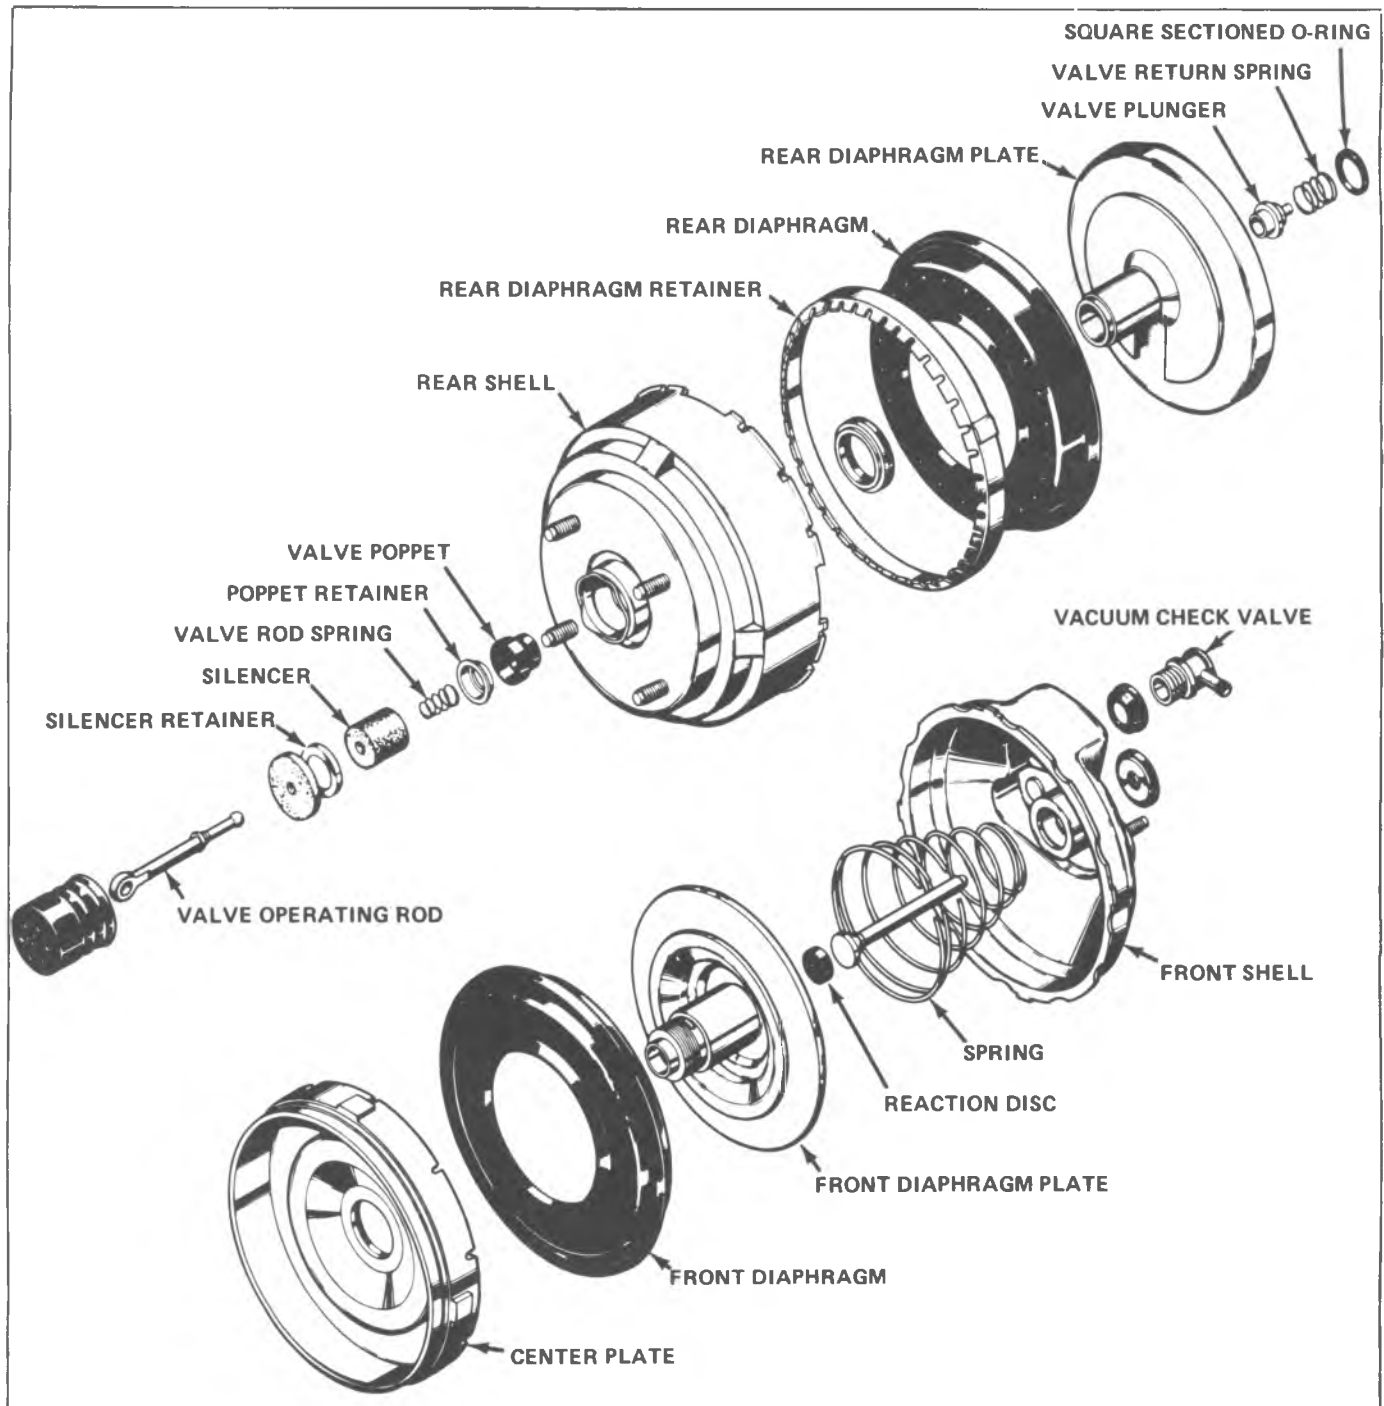

Fig. 5-5B—Diaphragm and Plates
24. After the two (2) plates have been loosened, remove the plates from Tool J-22839 and place on a bench with the front plate down. Unscrew the rear plate completely and carefully lift it off the front plate hub, grasping the air valve plunger and valve return spring as the parts are separated (fig. 5-5B).